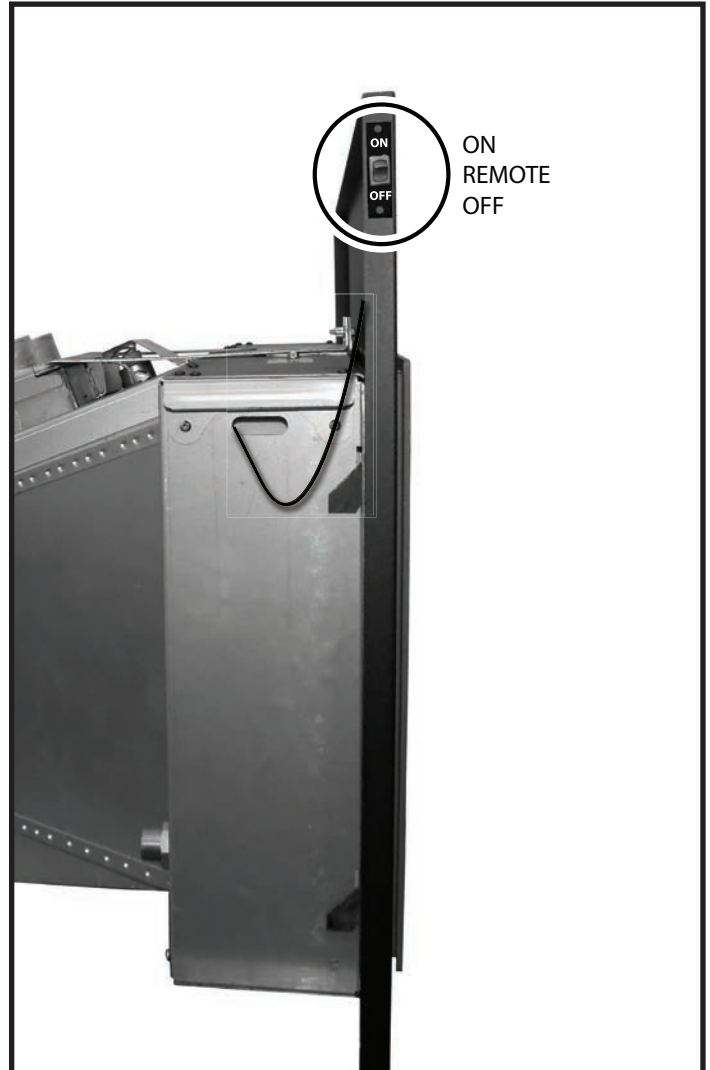

Figure 84: On Off switch for SIT units.
2. With the surround backing plate positioned in front of the fireplace, position the switch in behind the open slot in the backing plate and screw into place (Figure 84).